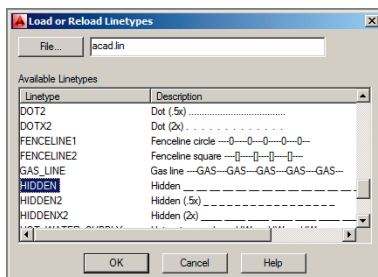

FIGURE 6.20 Loading the Hidden linetype
2. In the Linetype Manager dialog box that appears, click the Load button. Scroll down in the Load Or Reload Linetypes dialog box that appears, and select Hidden in the list (see Figure 6.20); then click OK. Hidden now appears in the Linetype Manager dialog box because this particular linetype style has been loaded in the drawing file; click OK to close the Linetype Manager dialog box.